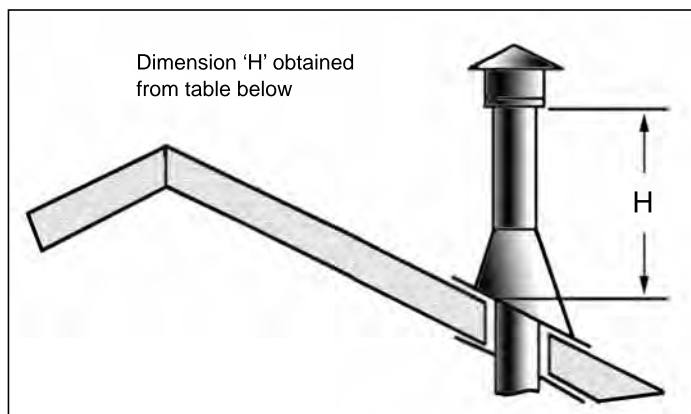

Figure 64: Height of Vertical Termination;
- Step 8.** Continue to add pipe sections until the height of the vent cap meets the minimum code requirements. Refer to Figure 64 and Table 7. Note that for steep roof pitches, the vent height must be increased. In high wind conditions, nearby trees, adjoining roof lines, steep pitched roofs, and other similar factors can result in poor draft, or down drafting. In these cases, increasing the vent height may solve the problem.
- Step 9.** Slip the storm collar over the pipe, and push it down to the top of the roof flashing as shown in Figure 64. Use the non-hardening sealant around the joint between the pipe and the storm collar.
Table 7: Minimum 'H' for Figure 64.